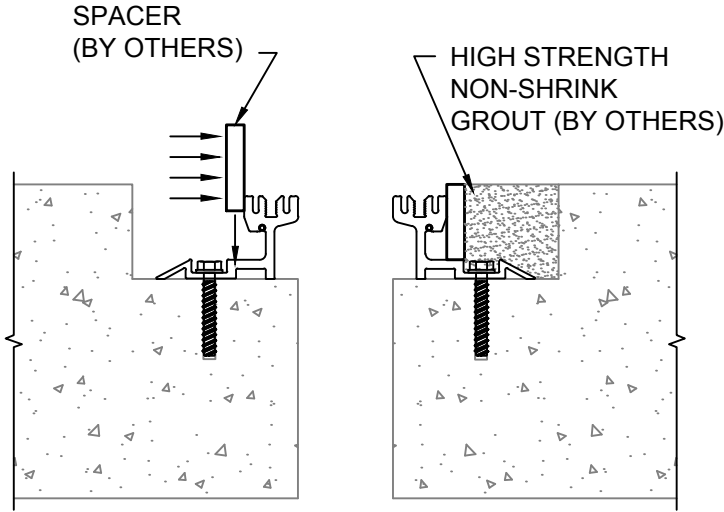

FIGURE 3A.1
- 3A.1) Install  $\frac{3}{8}$ " [9.53mm] wide continuous Spacers (by others) between the Rear Blockout Wall and the Side Frame. The depth of the Spacer will be determined by the depth of the system being installed. Note: The Spacers may need to be greased on the side facing away from the expansion joint to ease removal. (See Figure 3A.1)